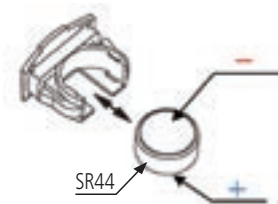

Fig. 1
6. For a digimatic type, use an SR44 battery **(Order No. 938882)**. **(Fig. 1)**